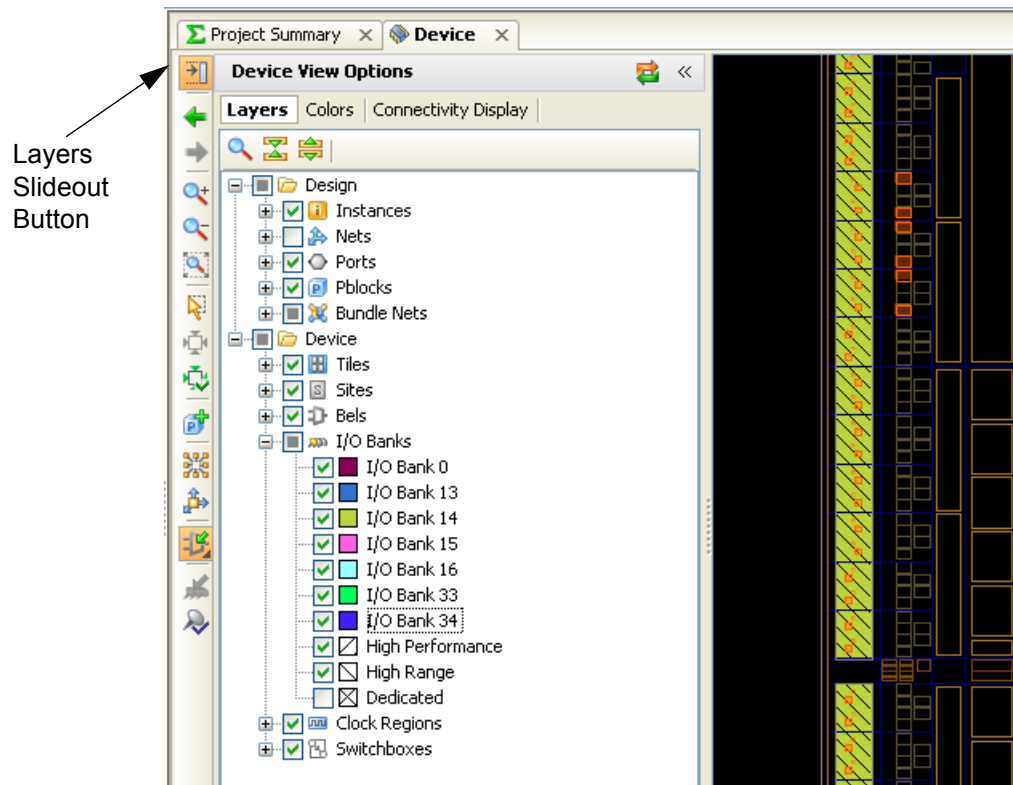

Figure 4-43: Device View Layers
- **Layers** — Define what device and design objects are displayed in the Device view. This command allows you to control the level of detail displayed in the Device view, and is especially useful when the display seems over-crowded with information. Figure 4-43 shows the Layers tab of the Device View Options command.